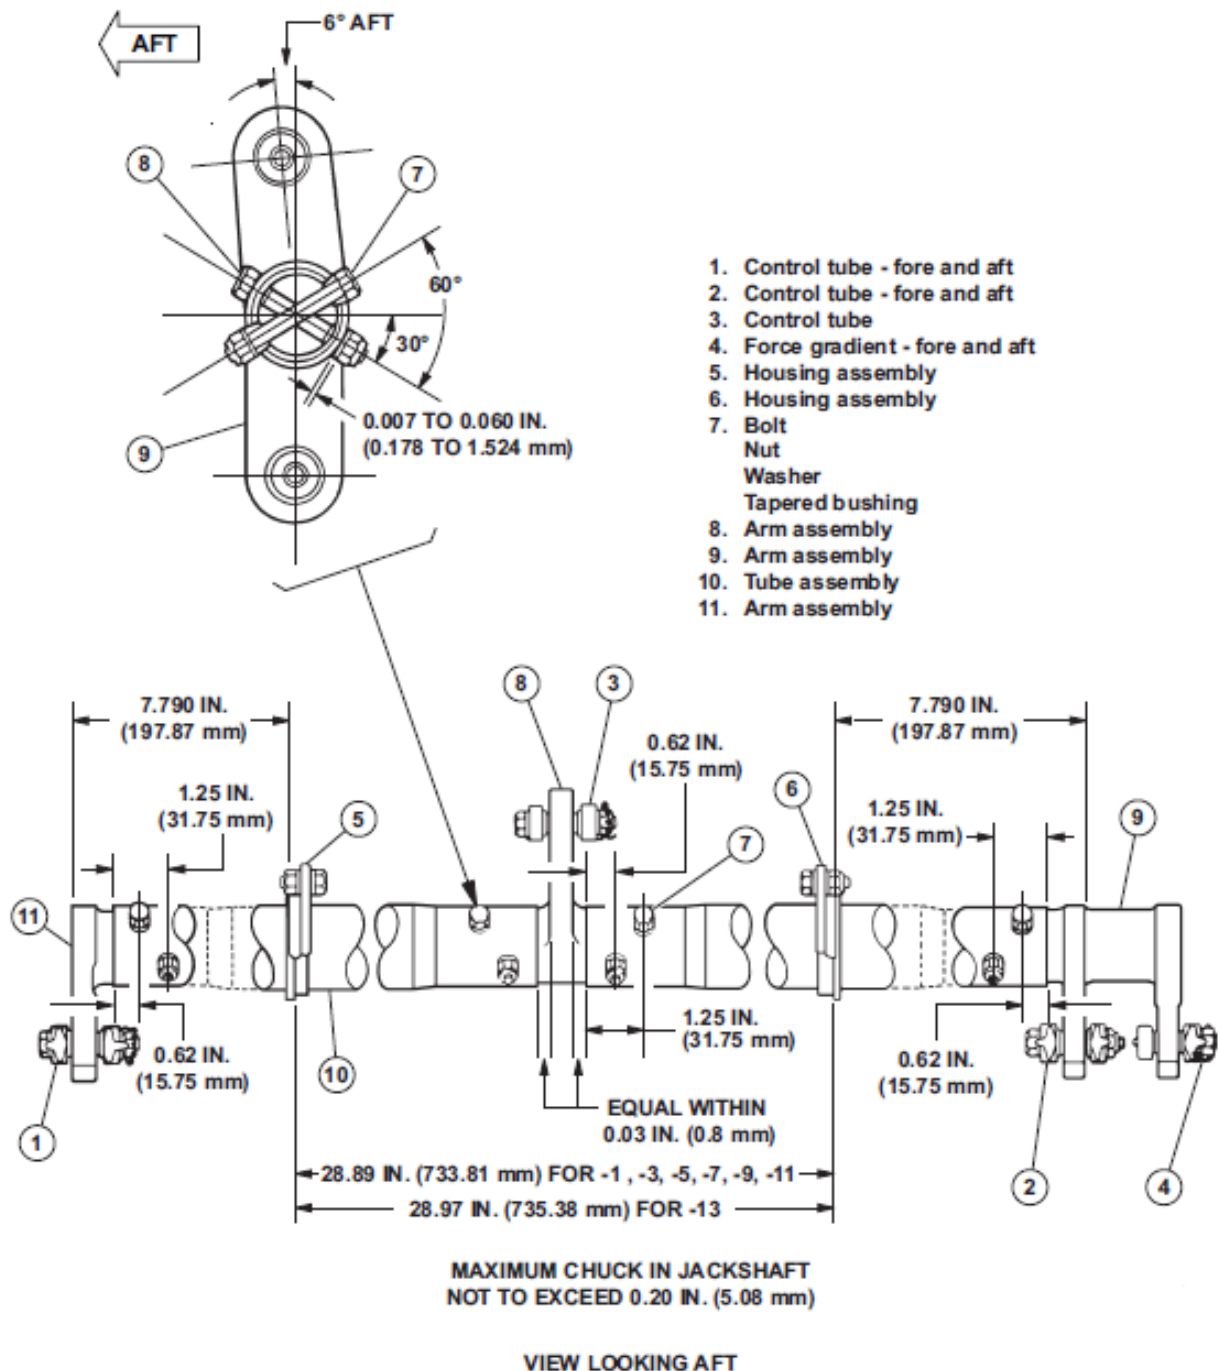

Figure 67-16. Cyclic Jackshaft
67.3.6.2.6 The maximum allowable lateral movement on cyclic jackshaft (26) is 0.20 in. (5.08 mm) (Figure 67-16).
67.3.7.1.2 Disconnect control tubes (1, 2 and 3, Figure 67-16) from jackshaft. Disconnect force gradient (4) from cyclic jackshaft.
67.3.7.1.6 Hold dimensions as shown on Figure 67-16.
67.3.7.1.12 Install tapered bushing and secure with bolt, washer and nut (7).
*After torquing bolt (7), the washer must be held off the surface of jackshaft tube within limits given in Figure 67-16, detail A.*